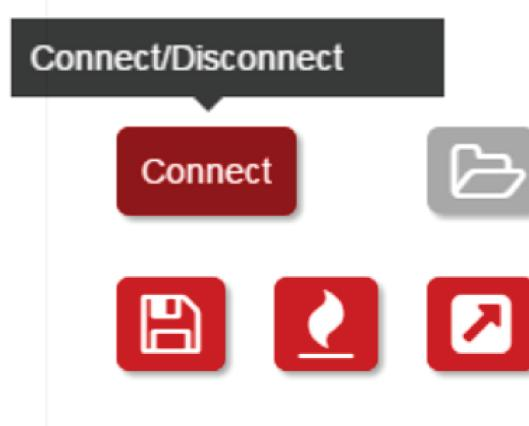

Figure 3-9. Connect and Disconnect
6. Click the Connect button as shown in Figure 3-9. Make sure the Serial terminal is not connected to the device. Also, the SOP [2..0] configuration must be 010.